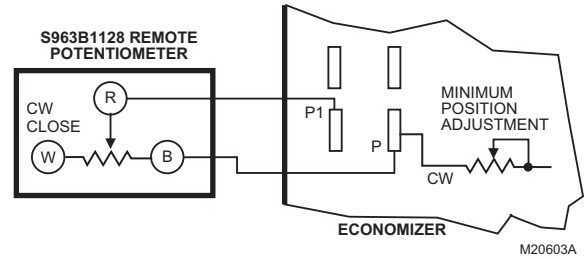

Fig. 33. S963B1128 Remote Potentiometer used with logic module for remote damper control.
Remote control of outdoor air dampers is desirable when requiring temporary additional ventilation. The addition of a S963B1128 Remote Potentiometer allows occupants to open or close the dampers beyond minimum position for modified ventilation. Connect the potentiometer as shown in Fig. 33.
3. Ensure that either the factory-installed jumper is in place across terminals P and P1 or, of remote damper position is required, that it is wired according to Fig. 33 and turned fully clockwise.